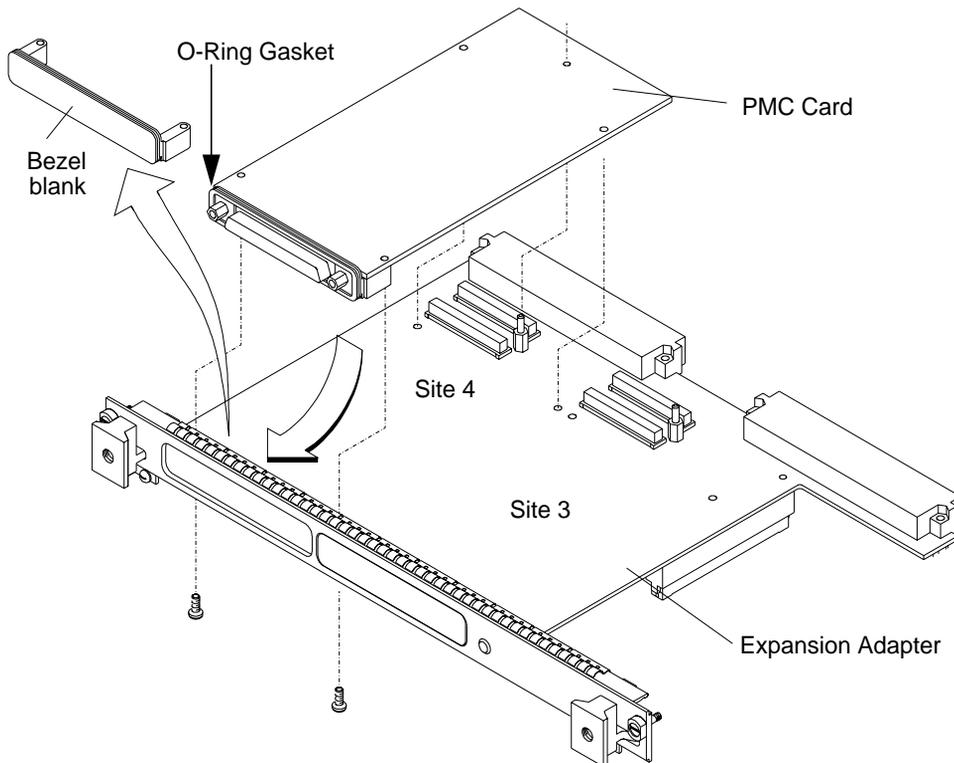

Figure 2-8
- 7 On the PMC expansion adapter, remove the bezel blank(s) from the sites where you will be installing the PMC card(s). See Figure 2-8.
- 8 Install the PMC card(s) onto the expansion adapter by aligning the front of the card with the front bezel, and onto the rear of the card with the connectors and post. See Figure 2-8.